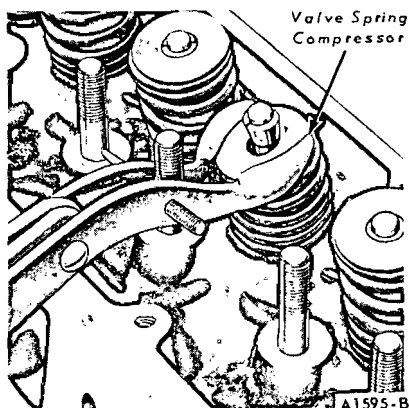

FIG. 32—Compressing Valve Spring—On Bench
4. Compress the valve springs (Fig. 32). Remove the spring retainer locks and release the spring.
2. Install the valve spring over the valve, and install the spring retainer. Compress the spring and install the retainer locks (Fig. 32).